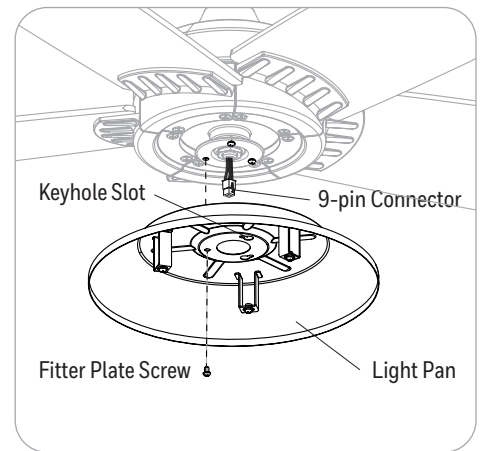

Figure 5.6
6. Remove one of the three fitter plate screws preassembled to the fitter plate and loosen the other two but do not remove. Feed the 9-pin connector through the center hole in the light pan. Align the keyhole slots in the light pan with the loosened screws in the fitter plate. Turn light pan clockwise and replace the previously removed fitter plate screw. Tighten all screws (Figure 5.6).